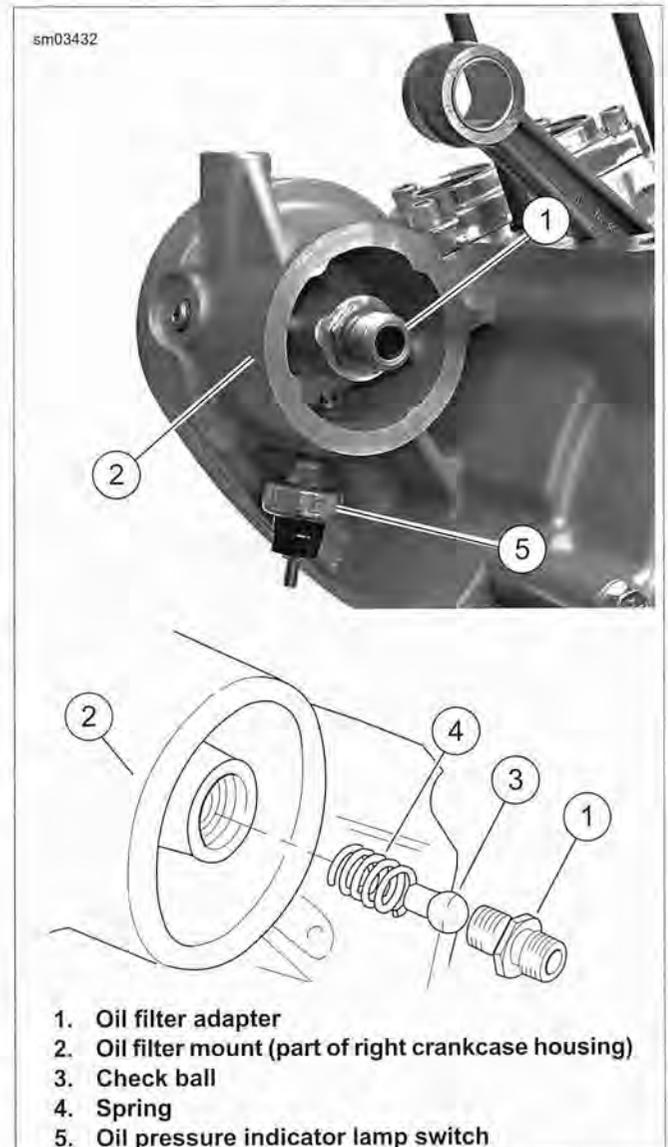

Figure 3-169. Oil Filter Mount, Typical (XL model shown)
2. See Figure 3-169. Remove oil filter adapter (1) from oil filter mount (2).
3. Remove check ball (3) and spring (4).